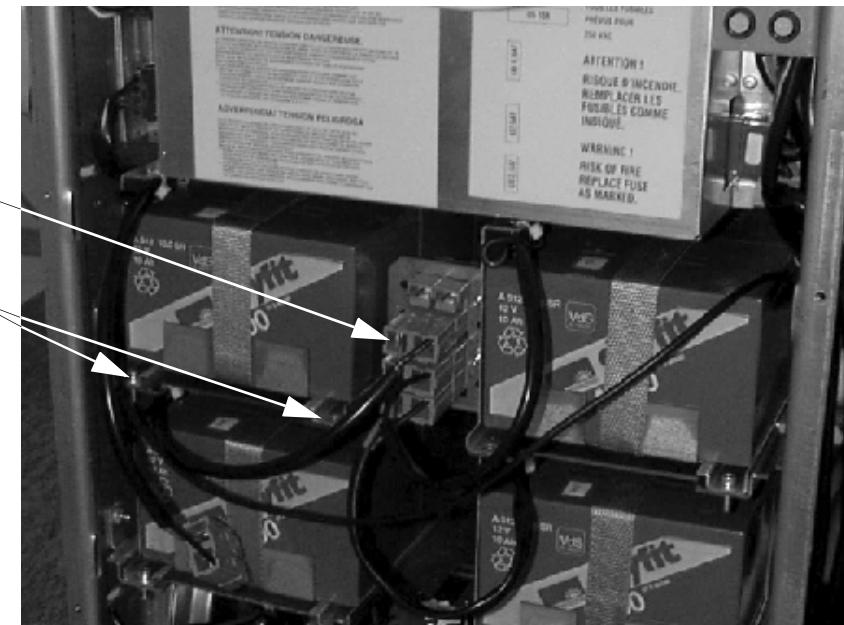

Fig. 1
1. Unplug all KBATT plugs (1/Fig. 1).
2. Remove the screws (2/Fig. 1) and pull out the four battery boxes.